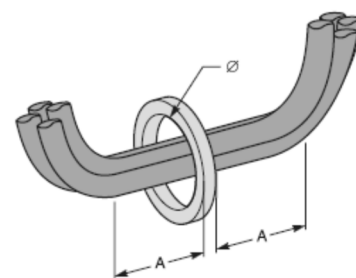

Fig. 6
5. Place the toroid on a straight section of cable, not near a Bend (see Fig. 6).